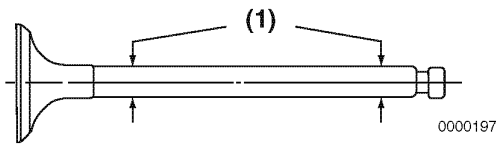

Figure 8-10
Use a micrometer to measure the valve stem diameter. Measure the valve stem near the combustion end and near the opposite end (**Figure 8-10, (1)**). See *Intake / Exhaust Valves, Guides and Seals* on page 8-5 for the service limit. Record the measurements.